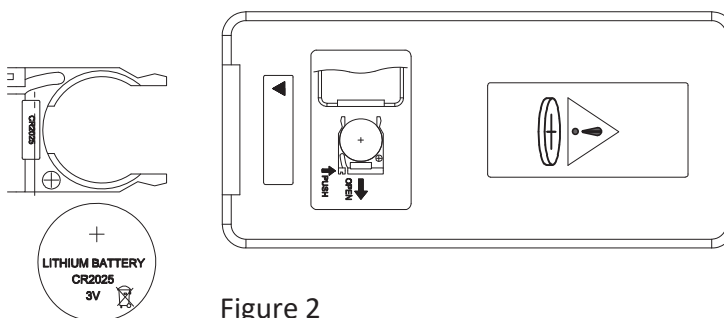

Figure 2
2. The battery number is CR2025. The battery has two sides, one with a button feature, and the other is flat. (Figure 2)